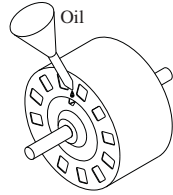

Fig. 8
• **Oil motor.** The cooler motor in this unit should be oiled with a few drops of non-detergent 20/30 weight oil once each year. The oil ports are located on each side of the motor (Fig. 8). Motors that have no oil ports are lifetime oiled at the factory and require no further oiling for the life of the unit.